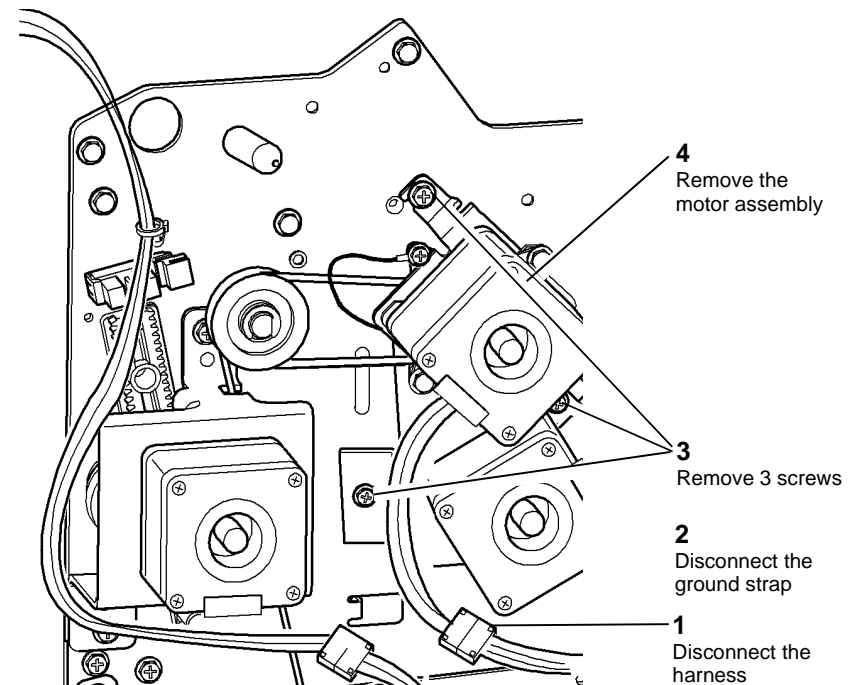

Figure 1 Motor assembly removal
3. Figure 1, remove the motor assembly.